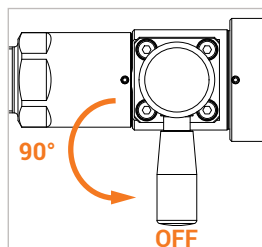

Figure 3
- ▶ Actuate the hand lever (Pos. 3) of the shut-off valve 90° to the OFF position to close it (*Figure 3*).